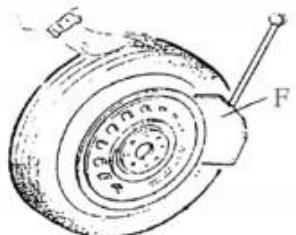

Fig. 5
1. Ensure to exhaust the air in the tyre completely, place the tyre against the rubber buffer (S).
2. Bring the paddle against the bead about 10 mm from the edge of the rim shown as figure 5.
3. Tread bead breaker pedal (U) to push paddle into tyre.